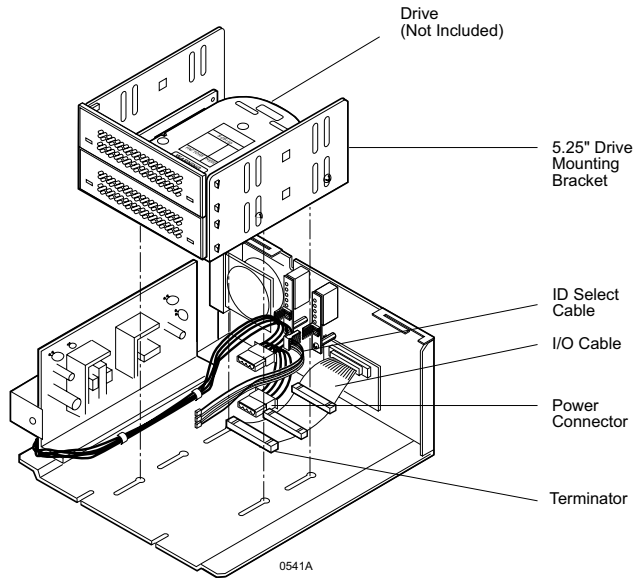

Figure 13: Installing the DS100 2-Bay Drive Mounting Bracket
8. After the drive(s) have been fastened into the mounting bracket, carefully insert the bracket back into the DS100 chassis (Figure 13). Be careful that no cables are pinched. Position the screws on the bottom of the mounting bracket through the slots on the bottom of the DS100 chassis so that the bracket can slide freely. Do not tighten the drive mounting bracket screws at this point.